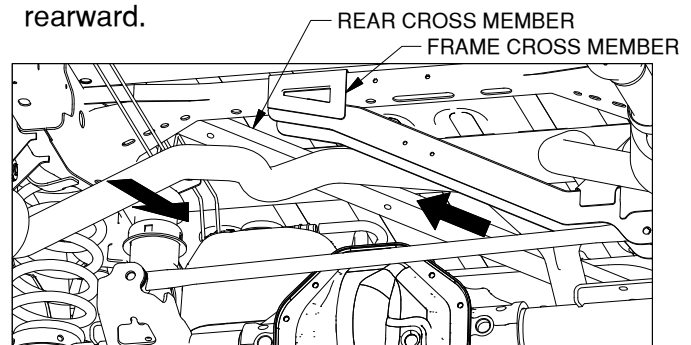

Figure B2: View looking under truck bed toward the cab.
4. **Place the rear cross member.** The rear cross member is the 2" x 1" bar with three threaded holes. Pass the cross member over the axle on the driver side of the differential from the rear. Angle the leading end of the bar toward the passenger side of the frame while going in front of the exhaust. Place the trailing end of the bar over the driver side frame rail, as shown in Figure B2. Swing the leading end of the cross member over the passenger side of the frame so that it is parallel with the axle. Rotate the bar so that the threaded holes are horizontal, and the bar is sitting on top of the frame cross member. Slide the bar rearward until it is touching the bed cross member. Make sure that the wiring harness does not get pinched or smashed while moving the cross member rearward.